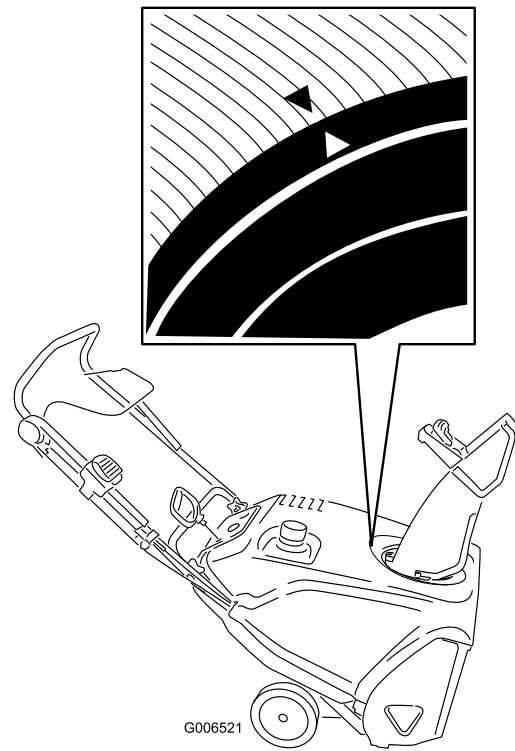

Figure 40
3. Rotate the discharge chute so that it faces straight ahead and the arrow on the back of the discharge chute aligns with the arrow on the shroud (Figure 40).